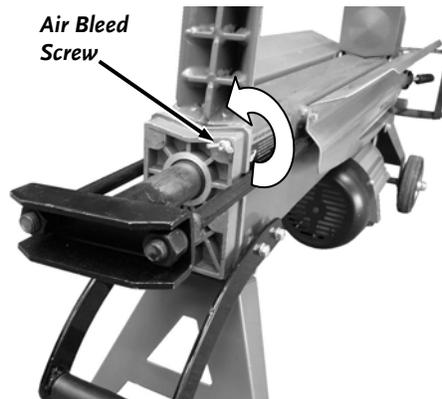

Figure 7
- It is important that the Air Bleed Screw is open when you use the Wood Splitter (**Figure 7**). Open the Air Bleed Screw by turning it counter-clockwise three to four times. Failure to open the Air Bleed Screw before using could damage the Wood Splitter.
1. Prior to using the Wood Splitter, open the Air Bleed Screw by turning the Thumbscrew counter-clockwise three to four times (**Figure 7**). **Leave the Air Bleed Screw open in this position while using the machine.** We recommend closing the Air Bleed Screw after each use, but you can leave the Air Bleed Screw open when you are finished.